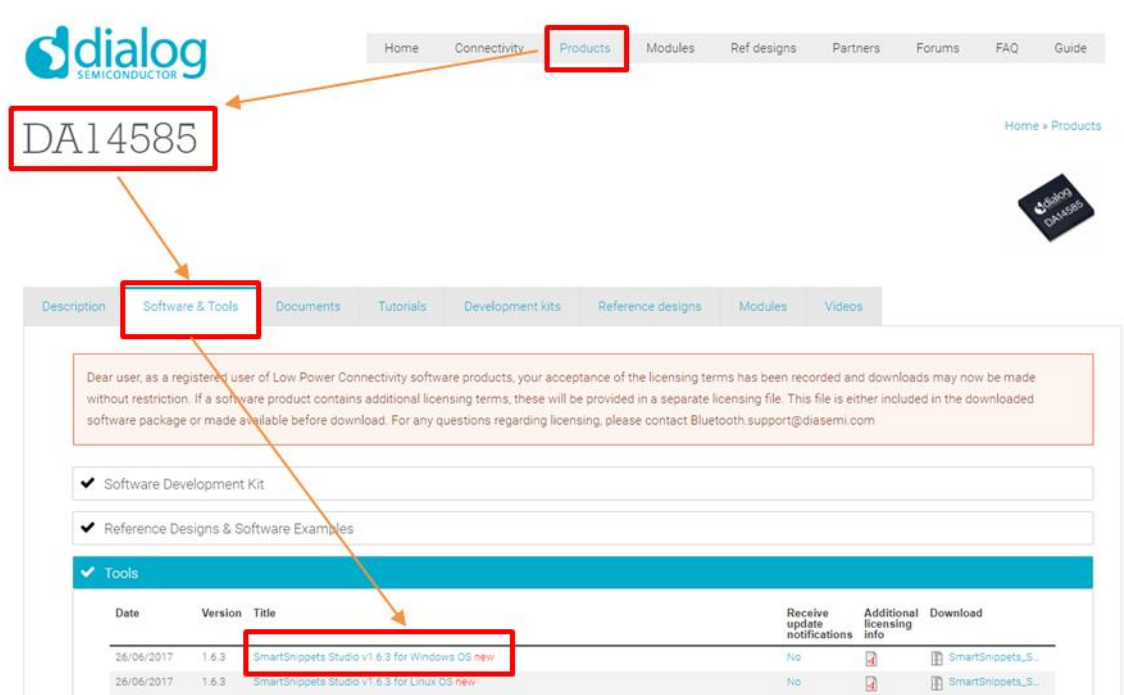

Figure 1: Download SmartSnippets™ Studio
1. Navigate to Dialog's support portal <https://support.dialog-semiconductor.com> and choose **Connectivity > Products > DA14585 > Software&Tools > Tools** (Figure 1) and download the latest 2.0.x version of SmartSnippets™ Studio.